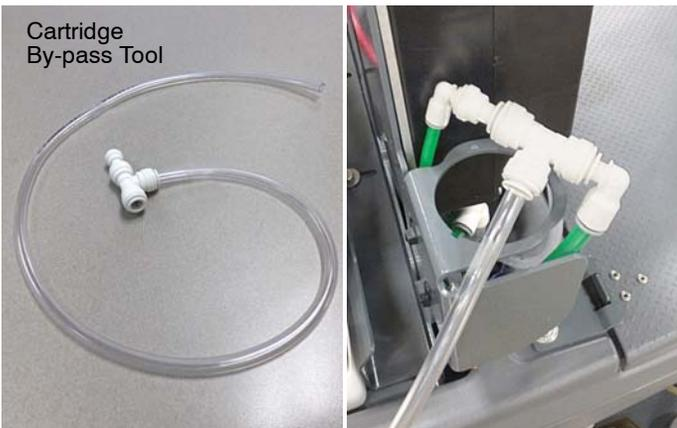

Fig. 39
1. Connect the cartridge by-pass tool, provided separately, to the two green hoses as shown. Route the clear discharge hose to the floor. The use of the cartridge by-pass tool is to prevent activating the ec-H2O water conditioning cartridge during the check process (Figure 39).